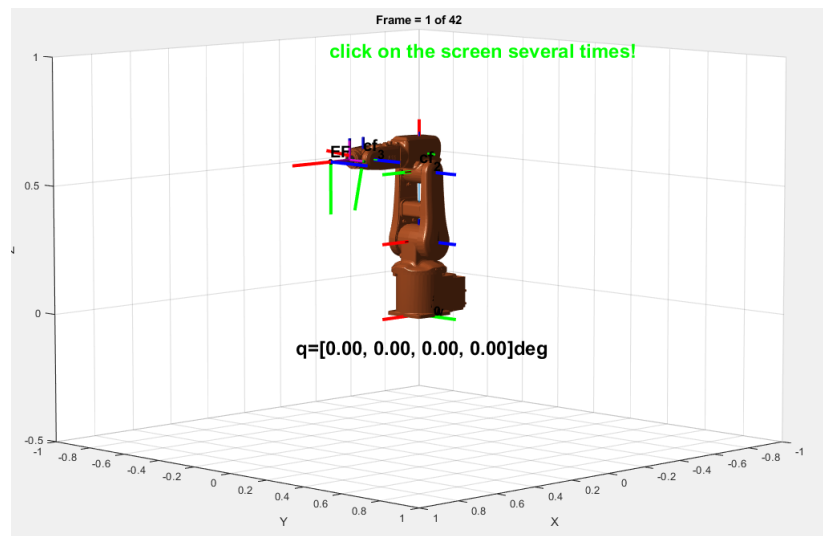

Figure 2: robot frame 1
From the DH table, we can derive the necessary coordinate frames (CF) crucial for effective robot control. Figures 2 and 3 depict two distinct robot positions along with their corresponding validated coordinate frames determined from the DH table. The accuracy of these coordinate frames is confirmed through visual validation using pictures taken in the lab PM.